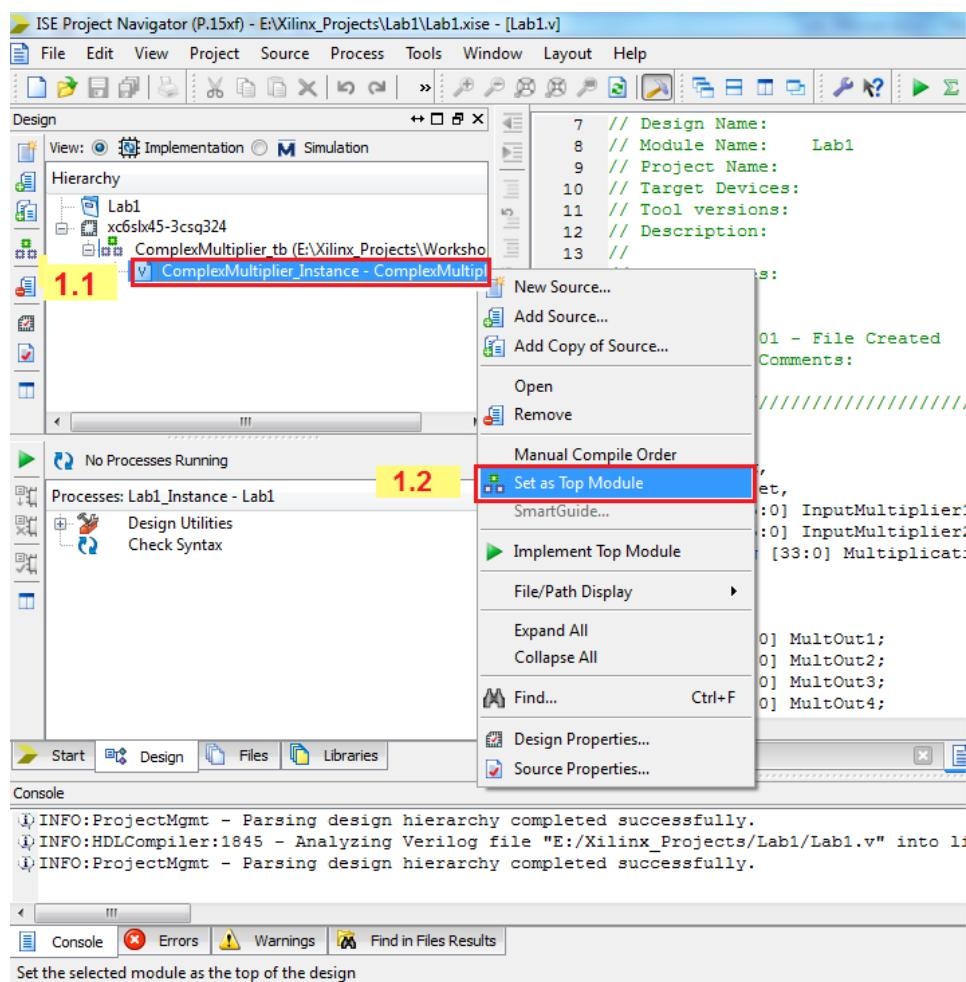

Figure 11.
1. Specify/Change the Top Module of the Design (Figure 11)